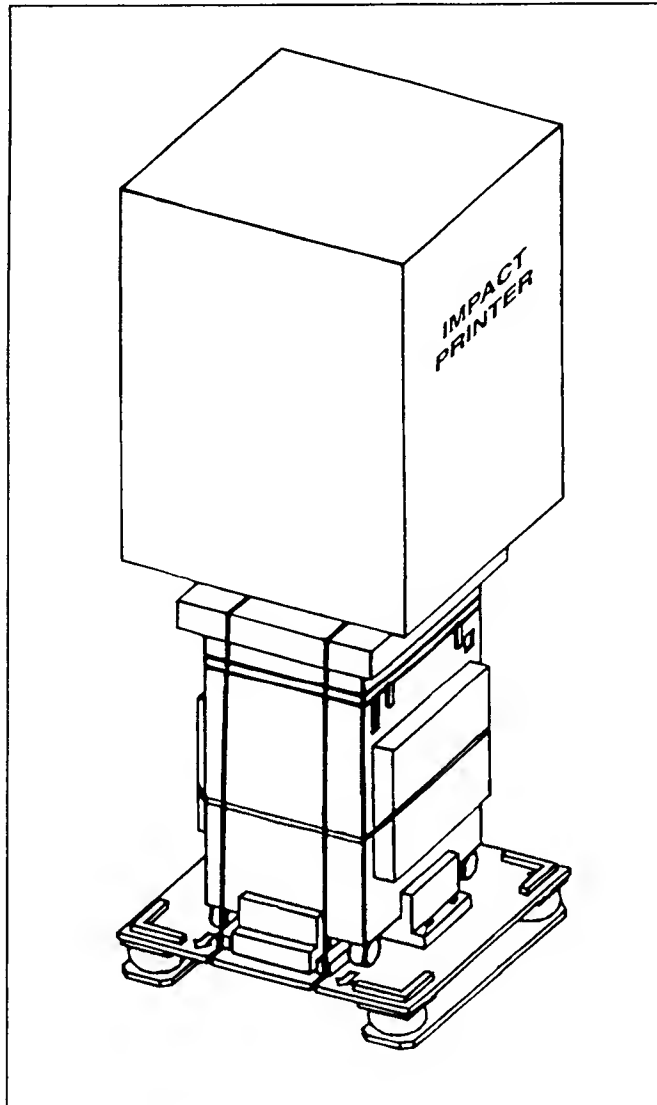

Figure 2-2. Step b.
- b. Remove the outer carton, cut and remove all straps securing the printer to the base (Figure 2-2).